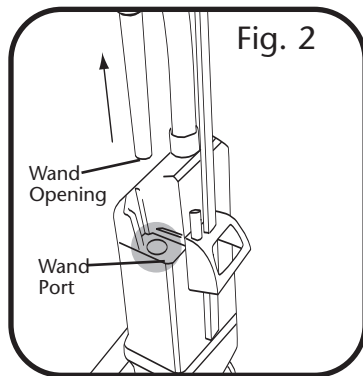

Fig. 1 – Airflow path and possible obstruction locations
1. Familiarize yourself with air flow path and possible obstruction locations (Fig 1).
2. To determine obstruction location, remove wand from port. (Fig 2). Turn on vacuum and place hand over wand opening to check for proper suction. If no suction exists, blockage is at location A or B (as shown in Fig 1) and proceed to Step 3. If there is proper suction, the blockage is at location C or D (as shown in Fig 1) and proceed to Step 5.